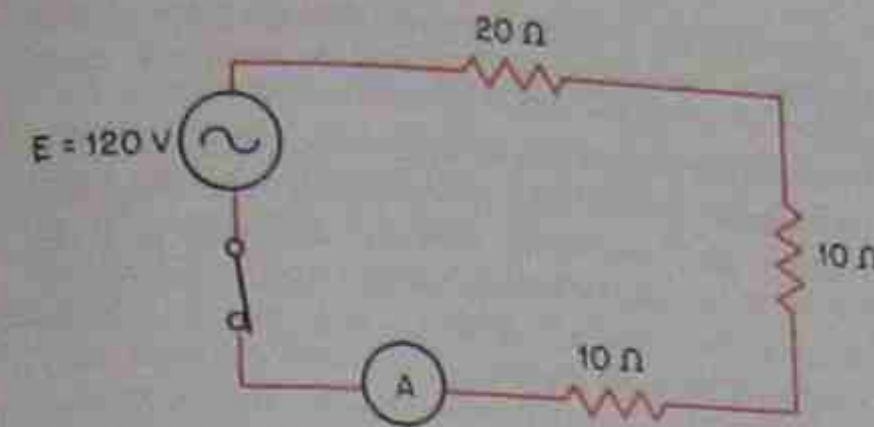

Figure 11-20
In series circuits with more than one resistance, simply add the resistances together as if they were one. In Figure 11-20 there is only one path for the current to follow (a series circuit), so the resistance is 40  $\Omega$  (20  $\Omega$  + 10  $\Omega$  + 10  $\Omega$ ). The amperage in this circuit will be
- The resistances are added together to obtain the total resistance, Figure 11-20.